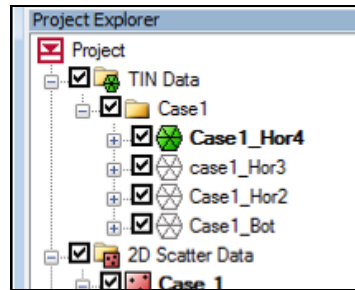

Figure 2 TINs organized into a folder
3. In the Project Explorer, drag and drop each of the four TINs into the “Case1” folder (see Figure 2).